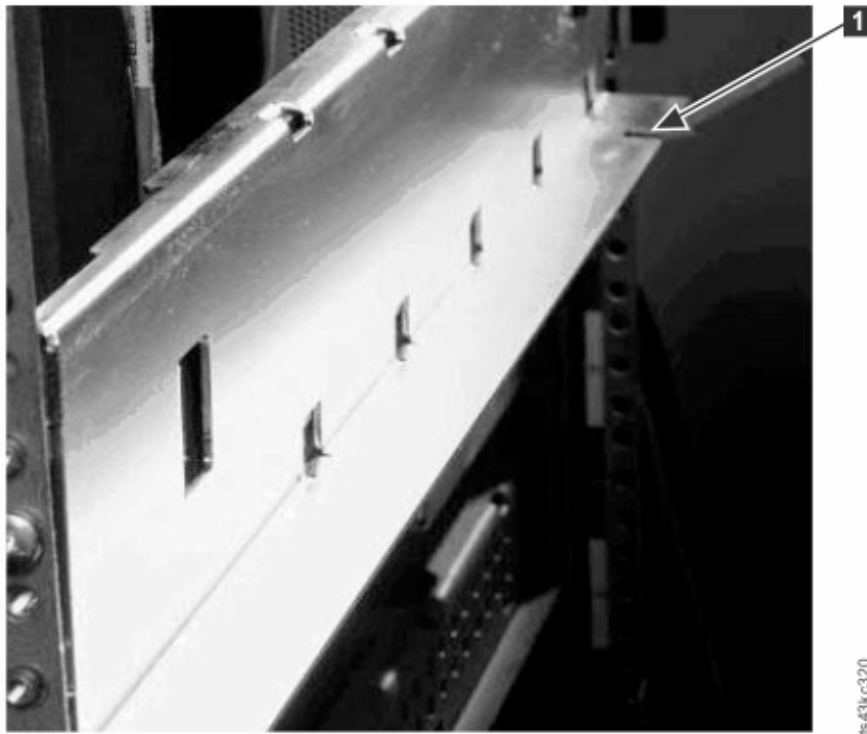

Figure 36. Hole for alignment pin
- a. Move the alignment lever of the upper of the pair of modules to the locked or engaged position. If you encounter resistance, adjust the position of the upper module so the pin in the alignment mechanism moves into the mating hole in the lower module. If you still encounter resistance, check to see if the rack rails are installed correctly. Check that the hole for the alignment pin is on the left rail (looking from the front) toward the back of the rack. See **1** in Figure 36 on page 51.